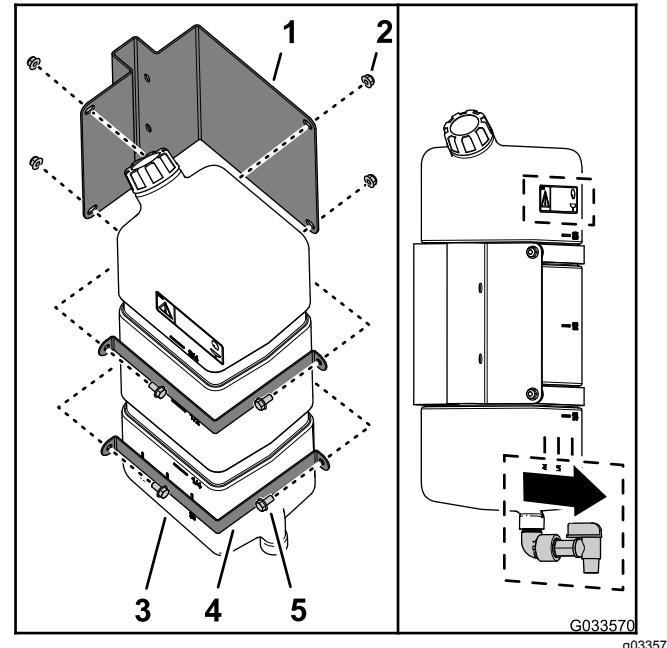

Figure 45
1. Assemble the fresh-water tank to the fresh-water tank mount with the 2 mount straps, 4 flange-head bolt (5/16 x 5/8 inch), and 4 flange locknuts (5/16 inch) as shown in Figure 45.